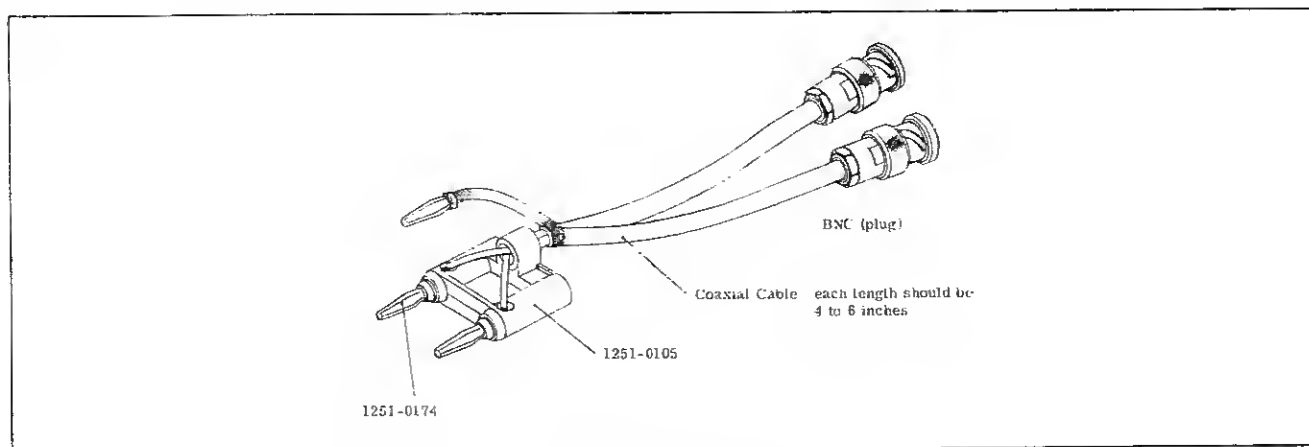
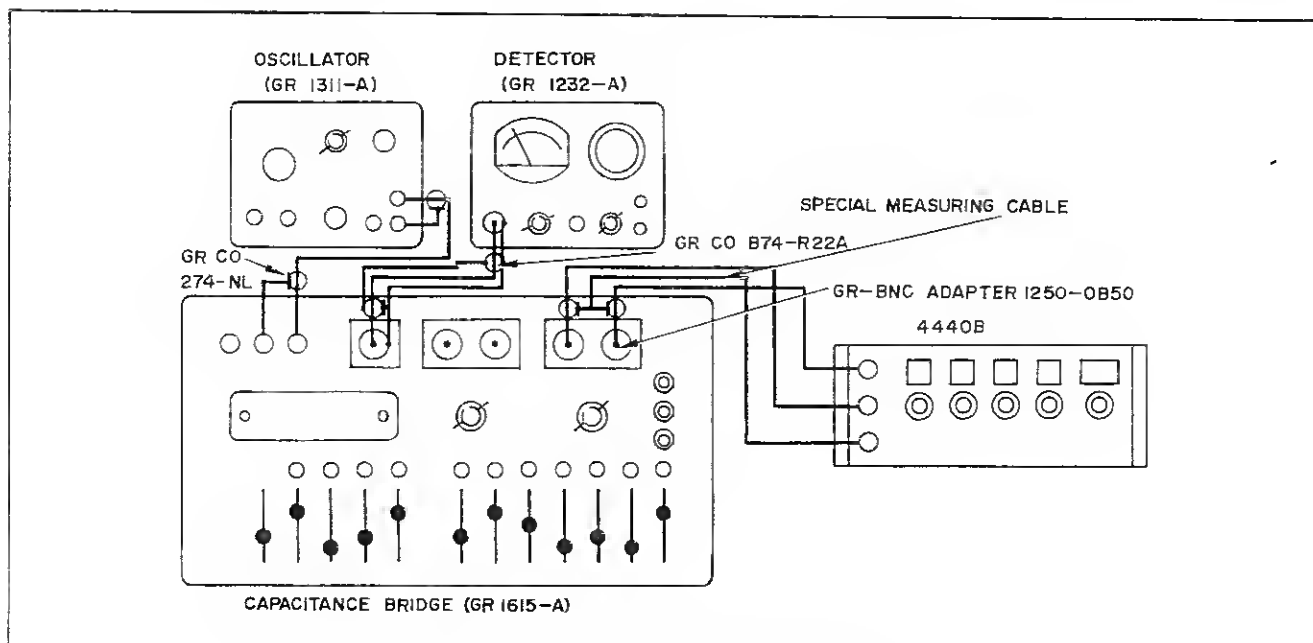

Figure 4-1 Measuring Cable
Figure 4-3. Performance Test Setup
4-7. The performance test setup is illustrated in Figure 4-3. An Oscillator (GR Type 1311-A), a Capacitance Bridge (GR Type 1615-A), and a Detector (GR Type 1232-A) are required for this test. In addition, a special measuring cable assembly as shown in Figure 4-1 is required.
- a. Make test setup as illustrated in Figure 4-3.